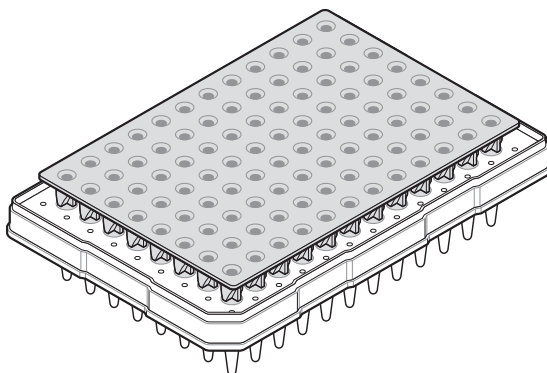

Figure 1-7 Align the plate sample holes with the septum holes.
- Ensure that the plate retainer and the septum holes are aligned. Damage to the array tips may occur if they are not aligned (see figure 1-7 below).